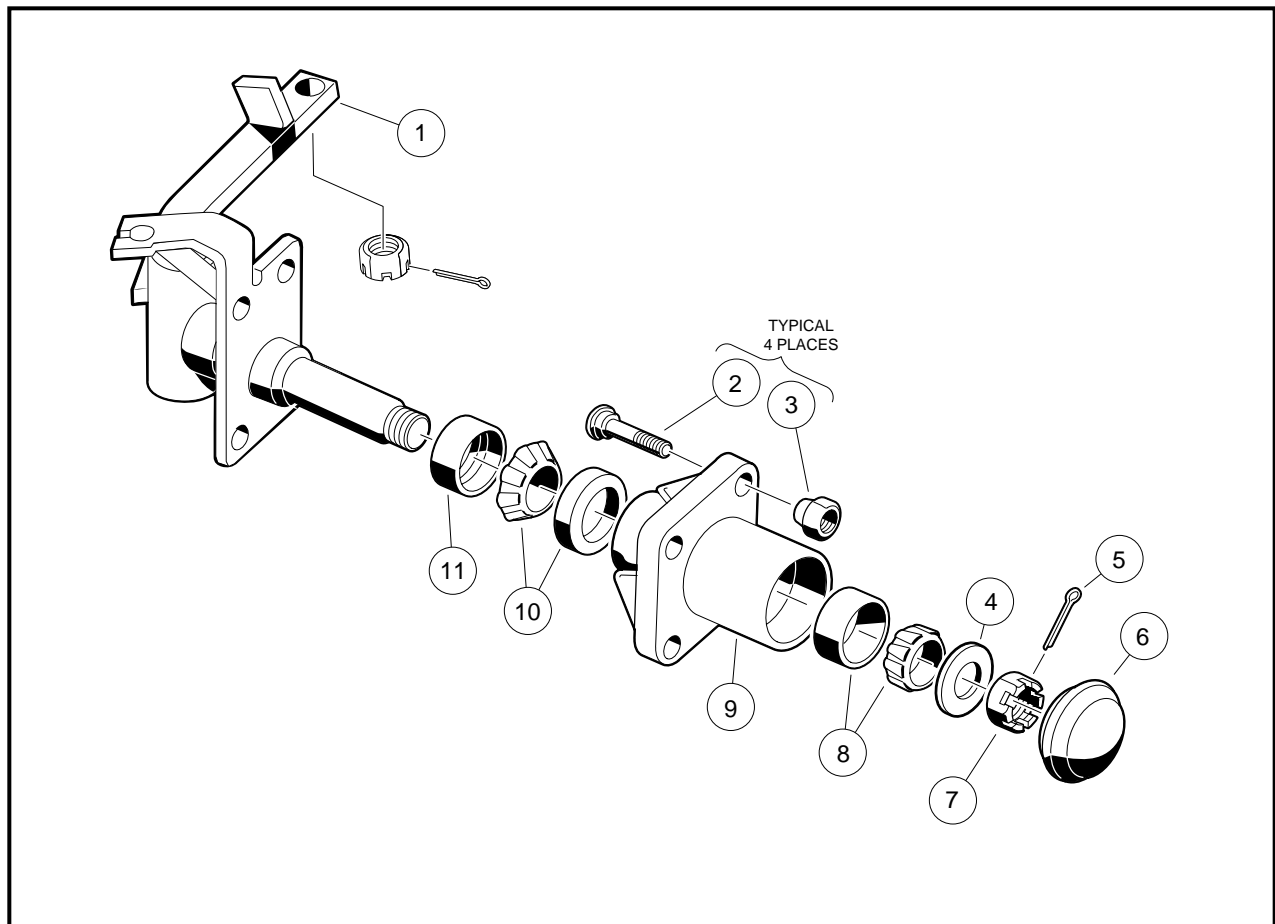

Figure 6-29 Front Spindle Assembly
6. Remove dust cap (6) on hub and bearing assembly (**Figure 6-29, Page 6-17**).
7. Remove cotter pin (5) and hex nut (7) from spindle shaft (**Figure 6-29, Page 6-17**).